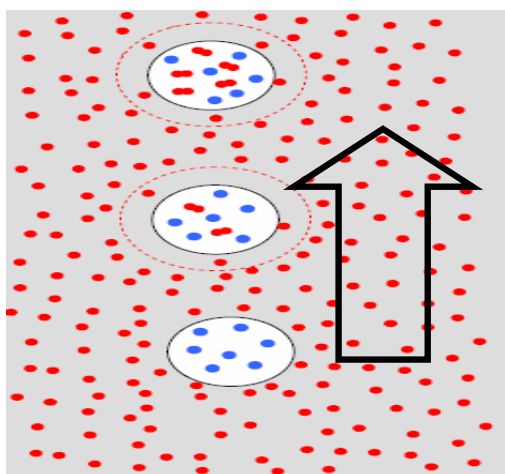

Figure 4
**Rotary Degassing:** In impeller degassing, (Rotary Degassing) thousands of small bubbles of inert gas are flushed through the liquid metal to facilitate removal of Hydrogen by floatation. (Figure 4)